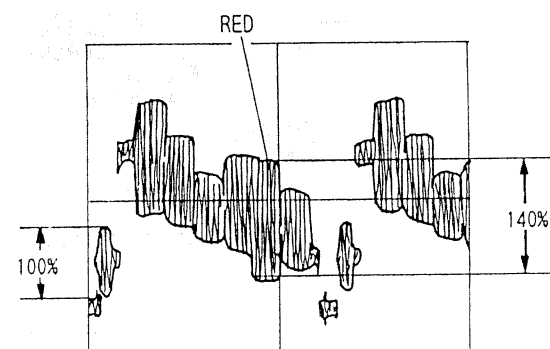

Fig. 4-12
15) Chroma Level Adjustment (Figs. 4-12, 4-52)